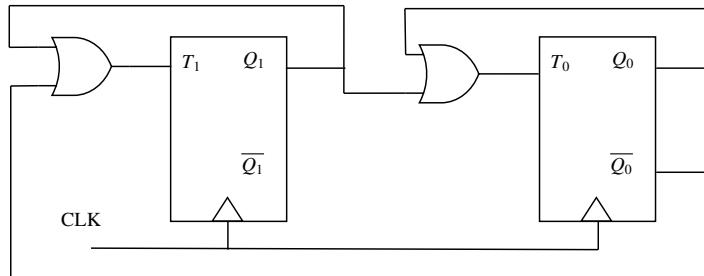

Fig. 5.25
27. The sequence of states ( $Q_1 Q_0$ ) of the given synchronous sequential circuit in Fig. 5.25 is \_\_\_\_\_. (GATE EC 2024)